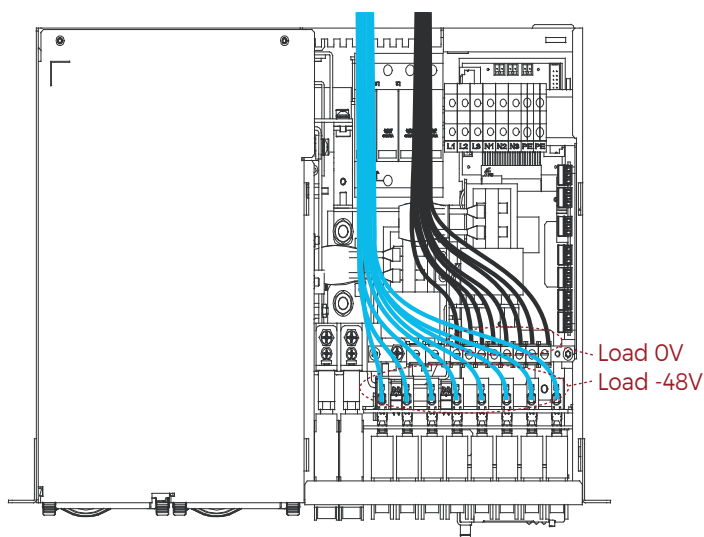

Figure 4-8 DC Load Connection
3. Connect the positive (+) cable from the load to the relevant positive terminal on the bus bar. Insert the stripped cable into the opening on top of the terminal and tighten the screw to 2.5Nm. See figure 4-8